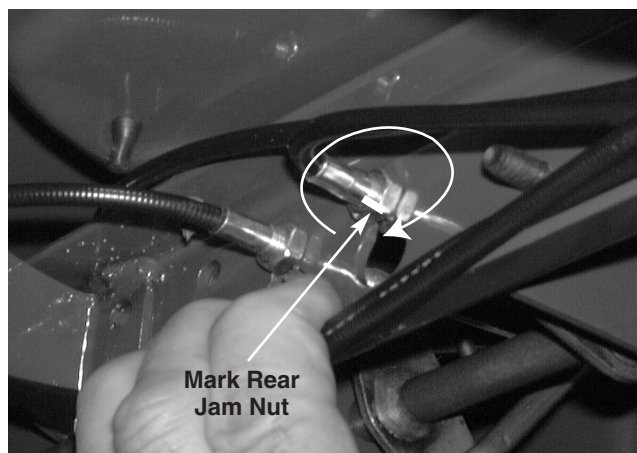

FIGURE 7.
- 8). Mark a line at any point on the back face of the rear jam nut. See figure 7.